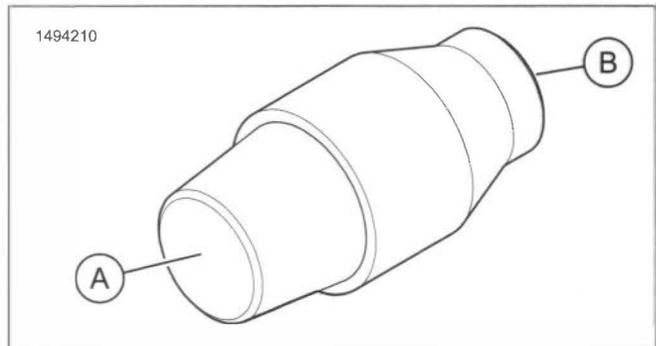

Figure 8-11. Rotor Shell to Starter Drive Assembly Pilot - HD-52970
1. See Figure 8-11. Using assembly pilot, install needle bearings and starter ring gear. ROTOR SHELL TO STARTER DRIVE ASSEMBLY PILOT (PART NUMBER: HD-52970)